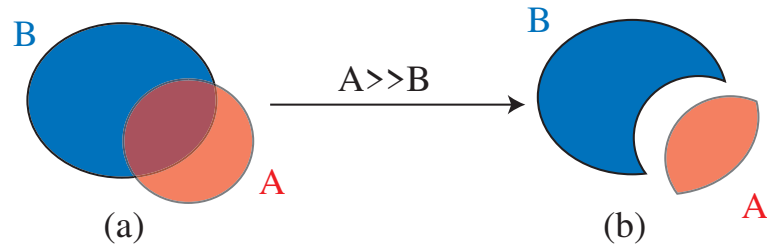

Figure 4.1: Operator \gg (put in). (a) A and B before the action of the operator ; (b) A and B after the action of the operator.
- if A is a normal Shape_ptr: $A \gg B$ modifies both A and B; A becomes $A \cap B$ and B becomes $B \cap A$ (see figure 4.1)
Note that now S and B are new `Shape_ptr`: $S = S \& !B$ (i.e. the sphere without the brick) and $B = S \& B$ (i.e. the intersection of the brick and the sphere) as already mentioned above (see fig. 4.1).